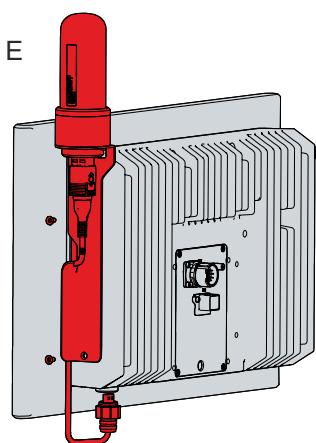

Fig. 30: CP32xx-1600_Mounting cabinet dome
The handle (1) and the toolboard (2) are mounted on the underside of the Panel PC using three M5 screws. Three M5 threaded holes are provided for this purpose (see Fig. 30).